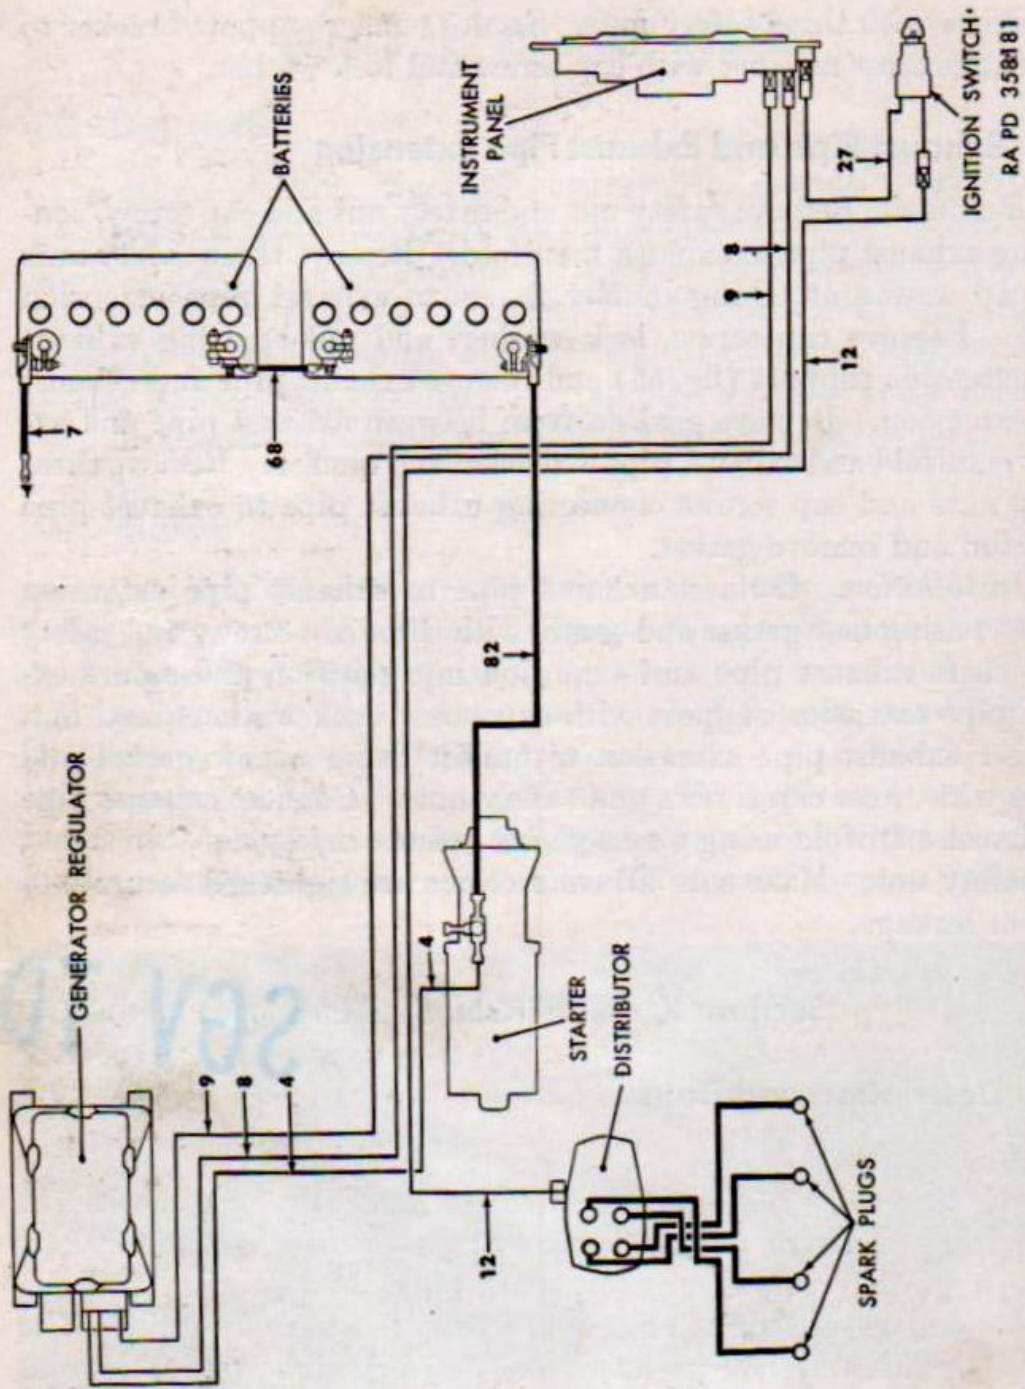

Figure 56. Ignition system circuit.
- (1) *General.* The ignition system circuit (fig. 56) consists of the source of power (battery or generator), ignition switch, ignition coil, distributor, spark plugs, and primary and secondary circuit wiring connecting the various units. The ignition system produces and delivers high voltage current to the spark plugs at timed intervals. Each high voltage surge produces a spark at the spark plug electrode to which it is delivered, igniting the air and fuel mixture in the combustion chamber. The entire ignition system is completely shielded for radio interference suppression and sealed for submerged operation.
- (4) *Circuits* (fig. 56). There are two distinct circuits in the ignition system, the primary and the secondary. The primary, or low voltage circuit, includes the source of electrical energy (battery or generator), ignition switch, distributor breaker points, primary winding of the ignition coil, and capacitor. The secondary, or high voltage circuit, includes